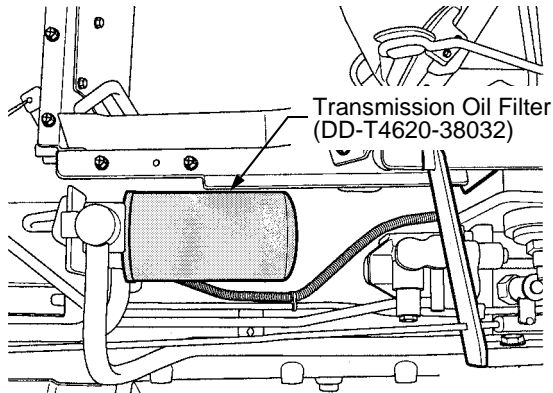

Figure 60
- Move the drain pan beneath the filter, then remove the filter by turning it counterclockwise using a filter wrench to loosen. See Figure 60.